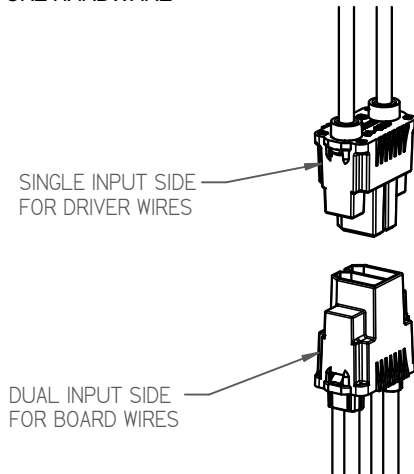

FIGURE 3a
- a) For LX/LXHE models, fasten the connector to its mating half. Connectors can only be assembled one way. (See Figure 3a)
REFLECTOR INSTALLATION: (SEE FIGURE 3A)